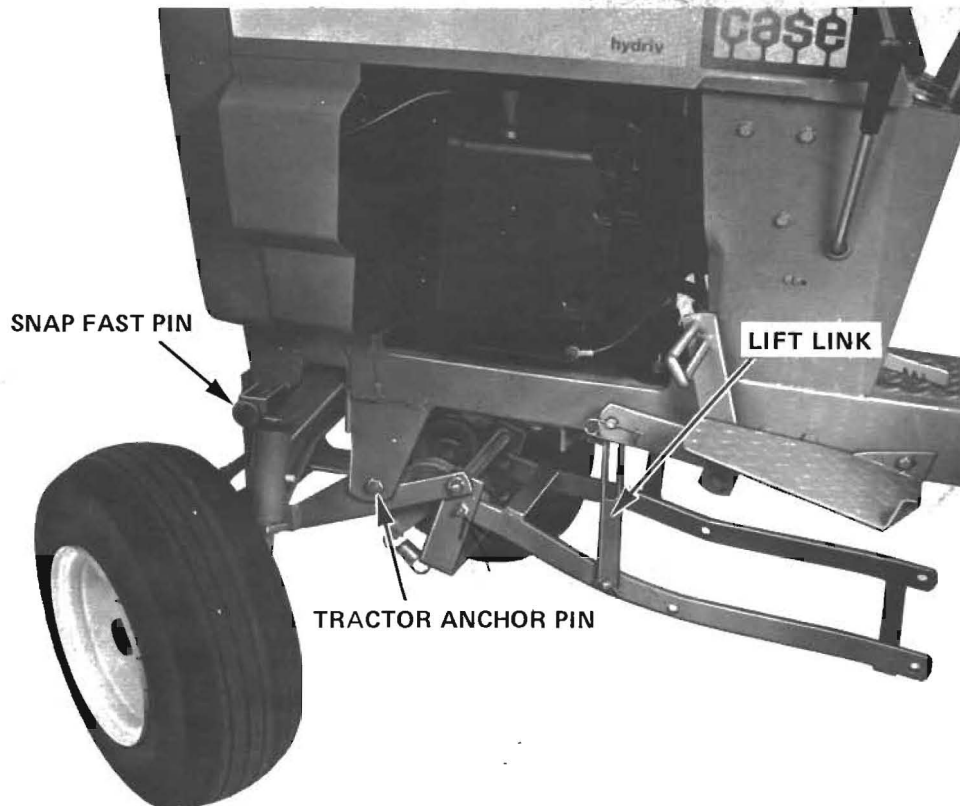

FIGURE 15 MOUNTING THE J-46 MOWER MOUNTING BRACKET
- Position the mounting bracket under the front of the tractor and onto the anchor pins as shown in Figure 15. Raise the front of the bracket and release the snap fast pins to lock in place.
stall plain washer on each clevis pin and install in the front hole of the lift arm from the inside. Secure the links with the safety pins at the outside. Refer to Figure 15.